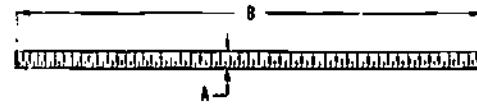

Figure 17-10. All-Threaded Rod
l) The all-threaded rod (Figure 17-10) has a continuous thread so it may be cut to any length. When ordering it, dimensions A and B must be specified.